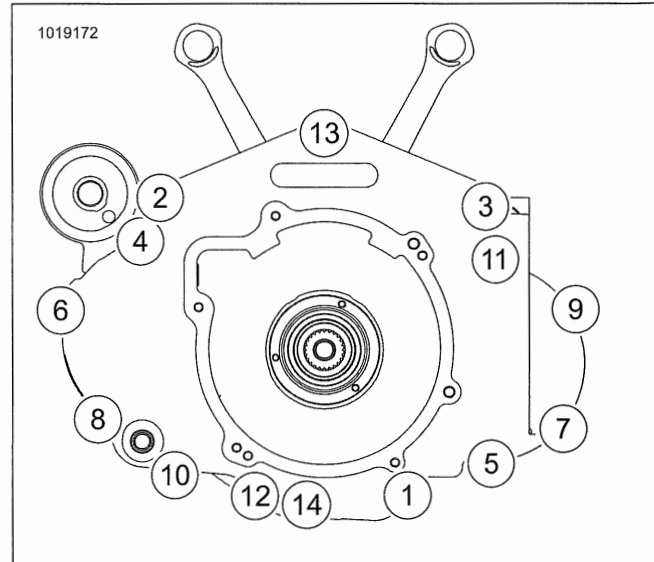

Figure 4-60. Crankcase Torque Sequence
- a. See Figure 4-60. Remove 12 crankcase screws in the sequence shown.
6. See Figure 4-60. Install 14 crankcase screws.